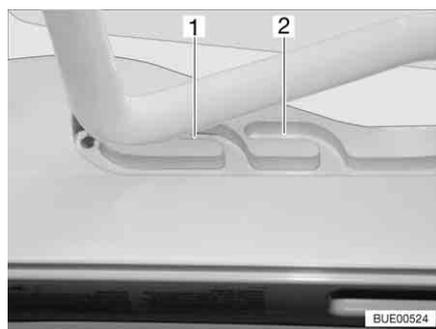
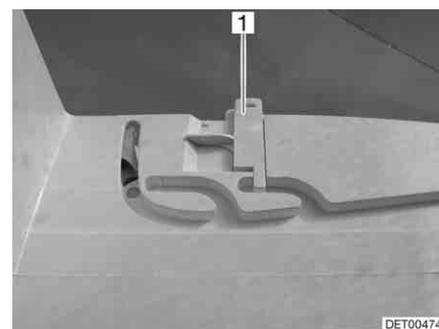

Fig. 92 Heki skylight in ventilation position
Fig. 93 Ventilation position locking mechanism
The Heki skylight can be put in two ventilation positions: Bad weather position (Fig. 92,1) and central position (Fig. 92,2). Depending on the model, the skylight can be locked in the central position with both left and right latches (Fig. 93,1) on the skylight frame.
- Push the bar slightly upwards and into the selected guide (Fig. 92,1 or 2) and lock if necessary.